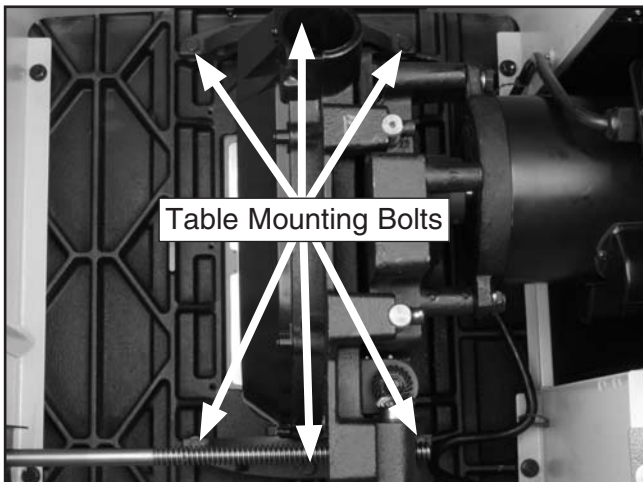

Figure 81. Table mounting bolts.
- To adjust the table, loosen the hex bolts in the table mounting locations (see **Figure 81**) and slightly tap the table in the needed direction. Repeat **Steps 2–5** until the blade and miter slot are parallel.